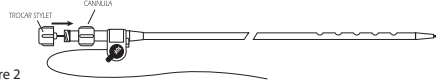

Figure 2
3. Remove the paper spacer from the trocar stylette. Advance the trocar stylette through the metal stiffening cannula and tighten the Luer lock fittings. See Figure 2.